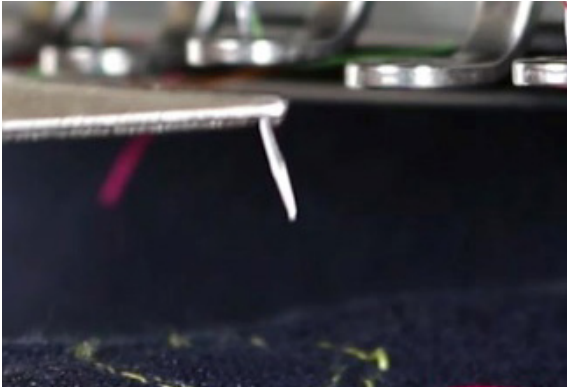

Figure 111
1. Begin by removing the broken needle from the garment. If it is not on the garment, check the bobbin area. **See Figure 111.**